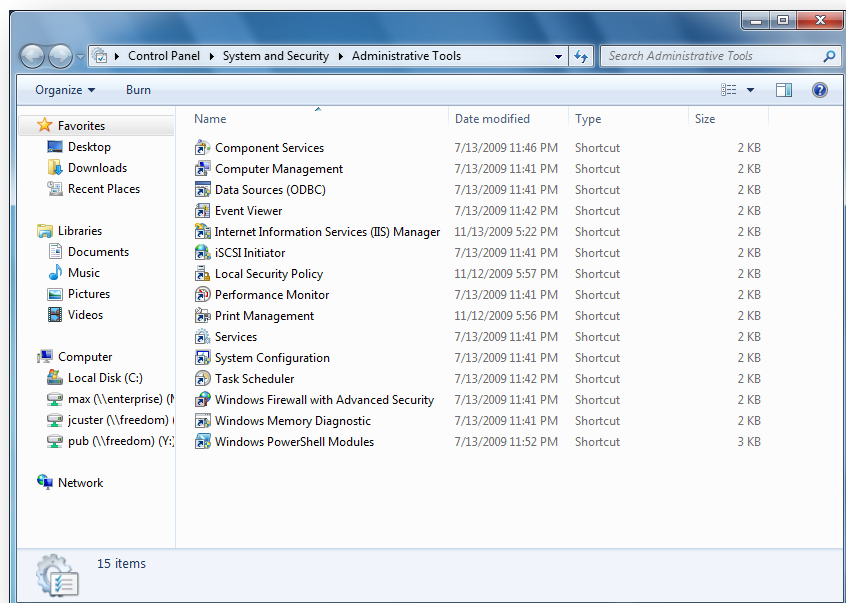

Figure 80 – Administrative Tools
4. Click on the plus symbol next to your computer name, then click on the plus symbol next to the “Web Sites” folder. See Figure 80.